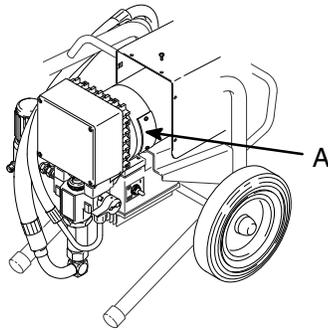

Fig. 14
1. Remove both inspection covers (A) and their gaskets. See Fig. 14.